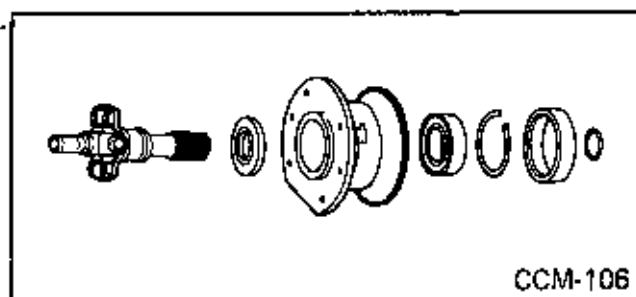

Fig. 101
1. Remove differential bearing cup. (Fig. 101)